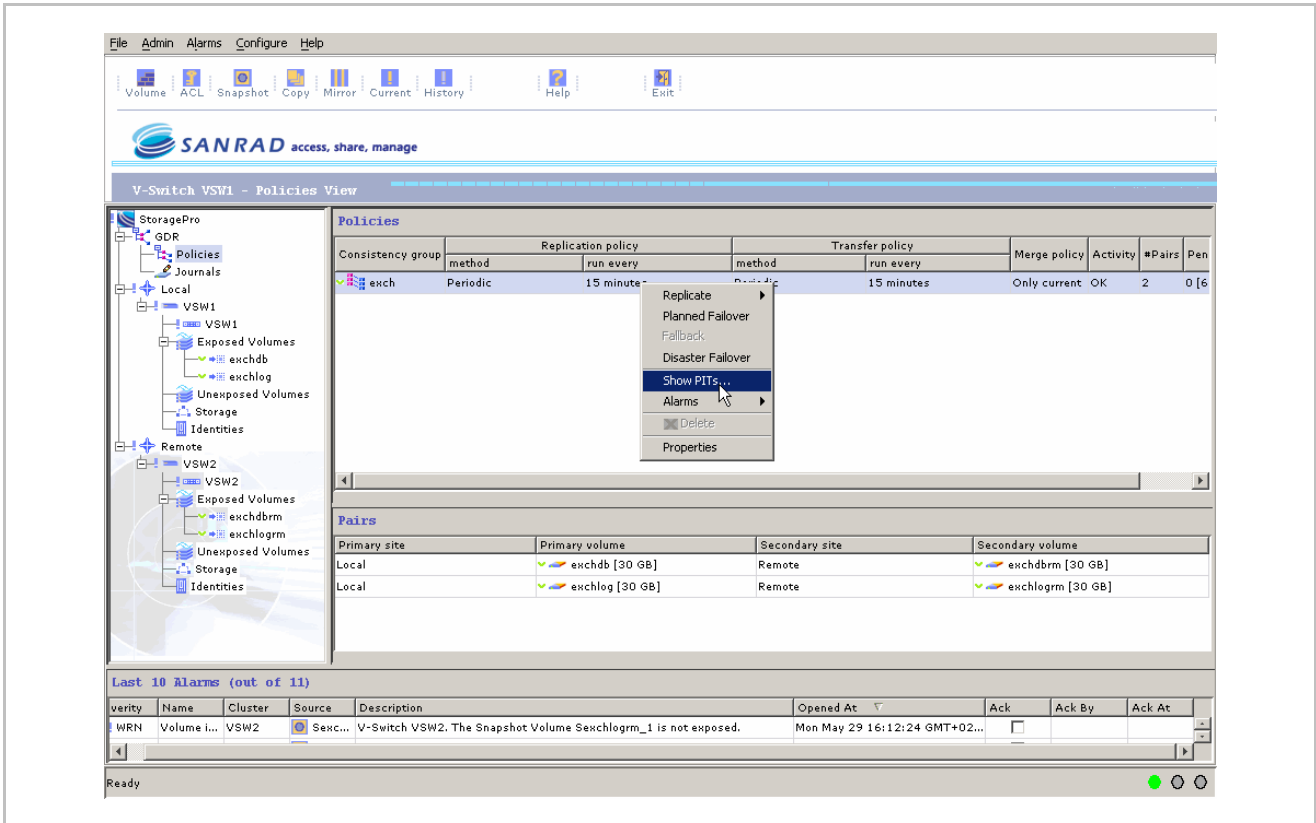

Figure 7. Monitoring Pits for Consistency Group
3. In case of a consistency group, under the GDR object click Policies, in the right panel right click the Consistency Group followed by Show PIT (see Figure 7).